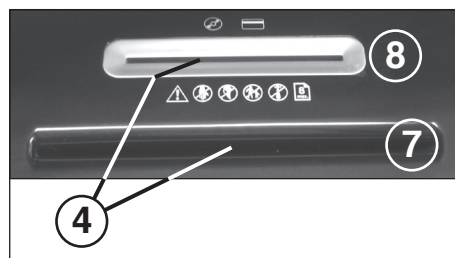

fig. 2
- 4 = Light barrier (forwards running) (fig. 2)**
- 7 = Paper feed slot (fig. 2)**
- 8 = Safety feed slot (fig. 2)**
Feed **paper** into the cutting mechanism through the paper feed slot (7) (Fig. 2). Feed **data carriers** (CD, DVD or credit card) into the cutting mechanism individually into the separate safety feed slot (8) (Fig. 2). The machine automatically switches to forwards running, draws the material in and automatically switches off after shredding.